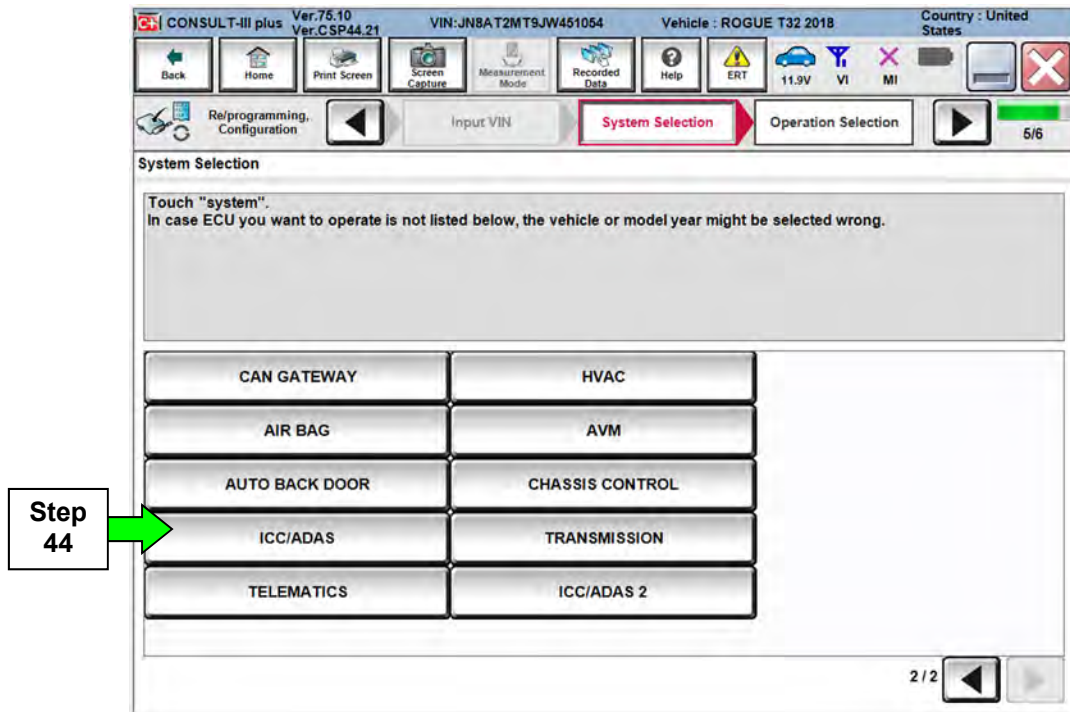

Figure 25
43. Refer to steps 1-17 starting on page 3 to navigate to Figure 25.